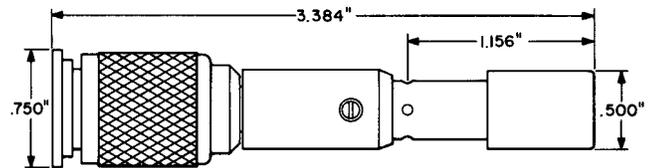

Fig. 3—204A Adapter
**2.03 204A:** The 204A adapter (Fig. 3) consists of a KS-14317, L3, plug on one end and a 358C plug on the other. This adapter is used for testing and fault-location work in coaxial cables of the L1, L3, and L4 Carrier Systems.